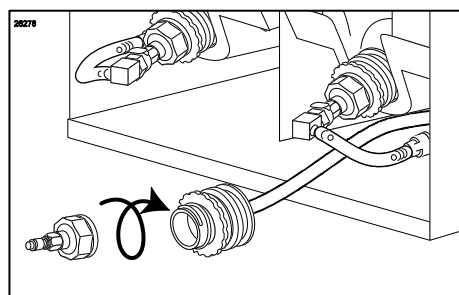

Figure 66
15. Locate the Pump Flush Adapter beneath the #8 syrup tray and connect it to the Syrup Bag Adapter. (See Figure 66.)